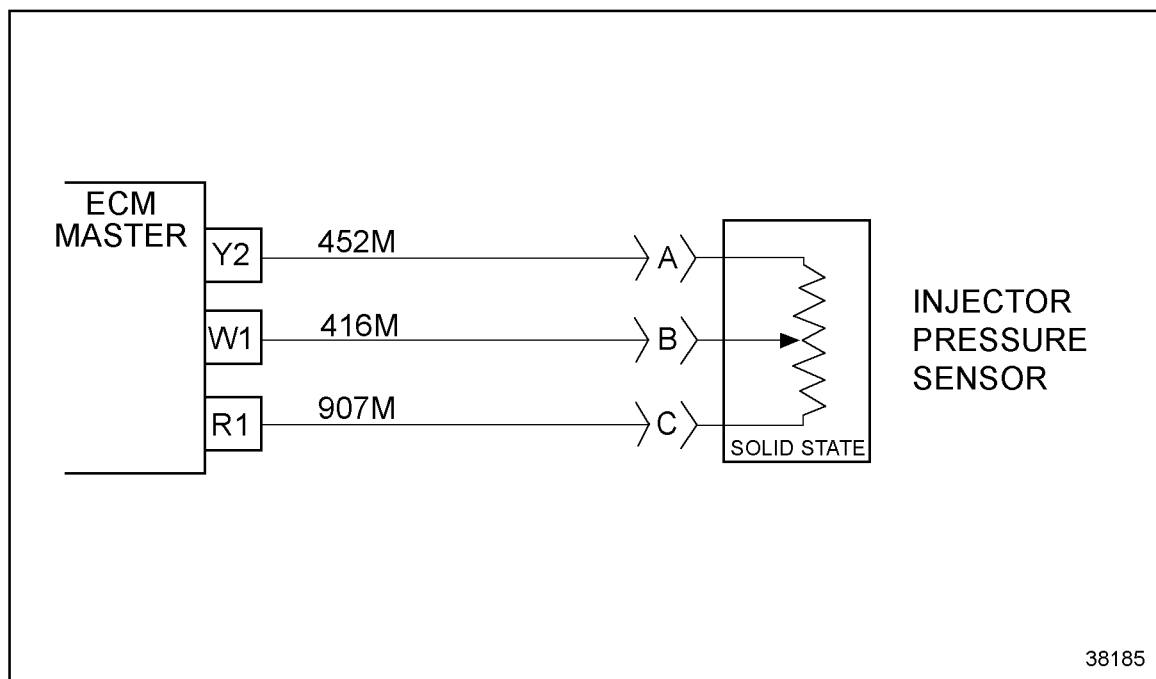

Figure 82-3 **Injector Pressure Sensor**
1. Measure resistance between cavity A #452M and cavity C #907M, and again between cavity A #452M and B #416M of the sensor connector. See Figure 82-3.